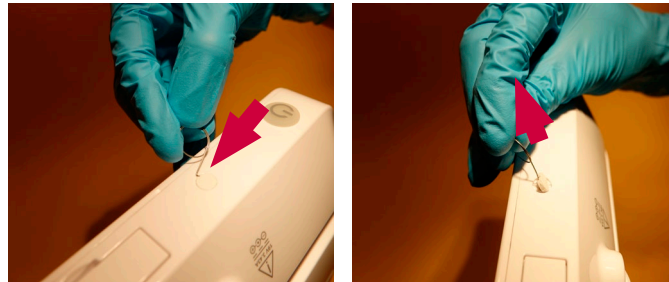

Figure 5 Removing the screw cover
d) Remove the round screw covers on each side of the displaying unit (Figure 5)